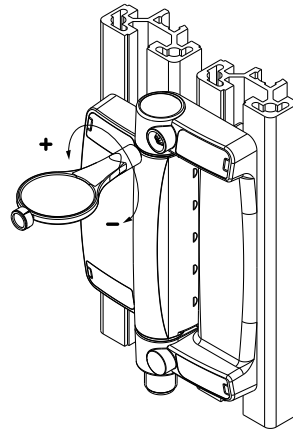

Fig. 6
2. Use the adjustment tool to set the normally-closed contacts in such a way that they are securely opened with the maximum permissible door gap. Turning clockwise results in a smaller switch angle while turning anticlockwise results in a larger switch angle (fig. 6); this is the opposite when mounted inside. To decrease the switching angle, turn counterclockwise to increase the switching angle (Fig. 6); when mounted inside accordingly reversed. The positive break angle is 7° larger than the set switching angle.